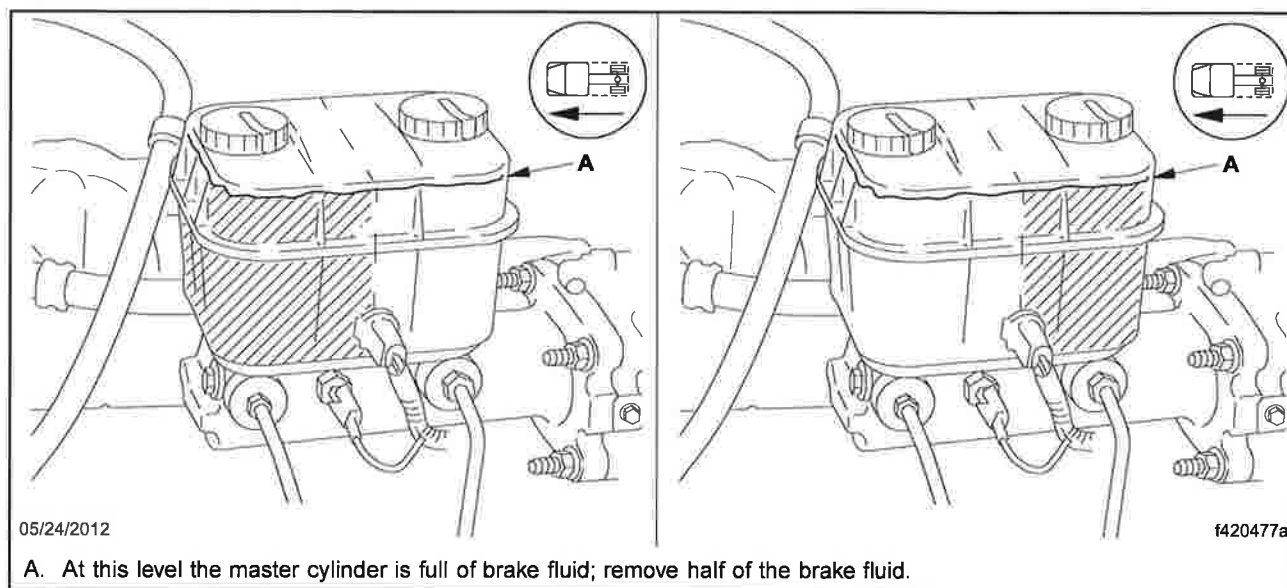

Fig. 2, Master Cylinder Reservoir
2. If removing the rear wheel caliper(s), remove half the fluid from the rear section of the master cylinder reservoir. See Fig. 2. If removing the front wheel caliper(s), remove half the fluid from the front section. Removing the fluid from the reservoir keeps the reservoir from overflowing when retracting pistons into the caliper.